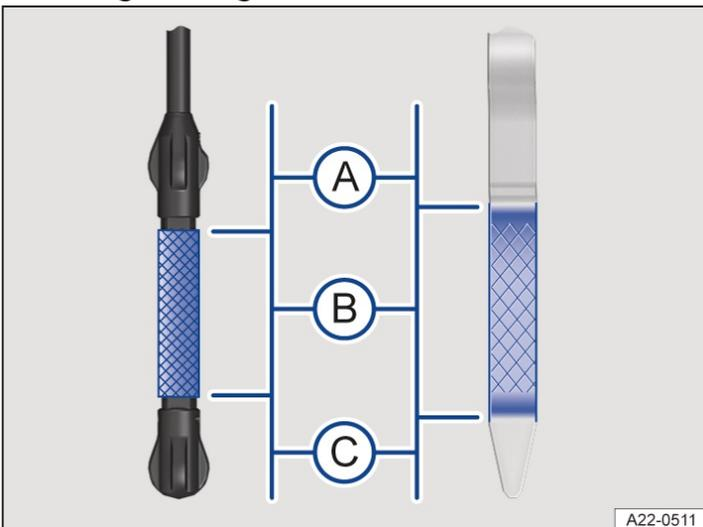

Fig. 2 Engine oil level markings on the oil dipstick (variants).
3. Pull out the oil dipstick again and read the engine oil level on the dipstick as follows → *Fig. 2*:
- (A) Engine oil level too high – observe the messages on the instrument cluster display or contact a correspondingly qualified workshop, if necessary. Volkswagen recommends using a Volkswagen dealership.
- (B) Engine oil level in the normal range. The engine oil can be filled to the upper limit of this range, for example if the engine is operated at high loads.
- (C) Engine oil level too low. It is essential to refill engine oil. If necessary, observe the messages in the instrument cluster display.
Never overfill with engine oil. After filling, the engine oil level should be in the middle of the area → *Fig. 2* (B). It should not be above → *Fig. 2* (B), i.e. in area (A), and must not be in the area above → *Fig. 2* (A).